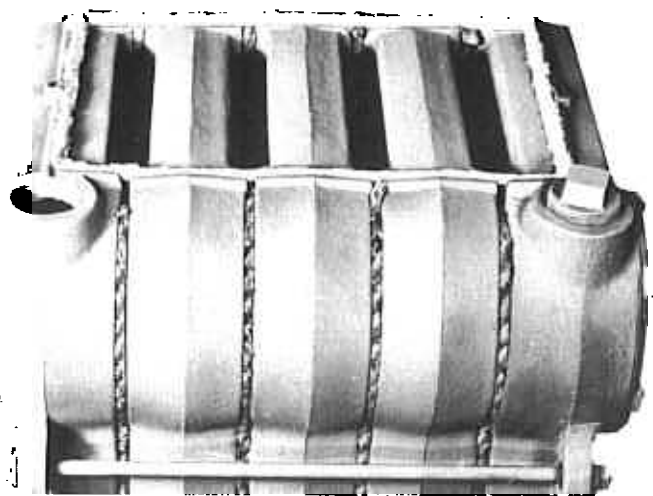

FIGURE 7
- 4—Open flue collector carton. Remove flue collector and Hi Temp rope and lay rope on top of boiler against bead provided. See Figure 7.